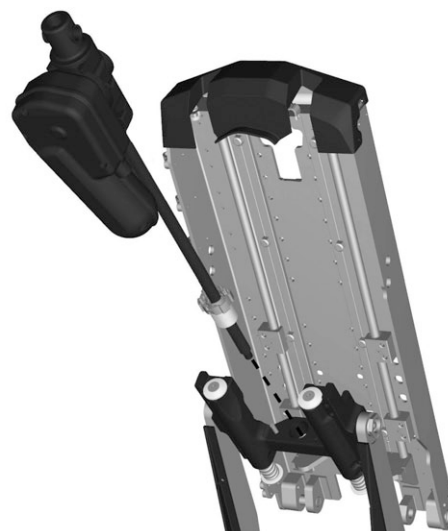

Figure 125. Assemble the actuator to the sleigh by unscrewing its nut.
1. Assemble the actuator on to the sleigh by screwing its nut fully in. See fig. 125.